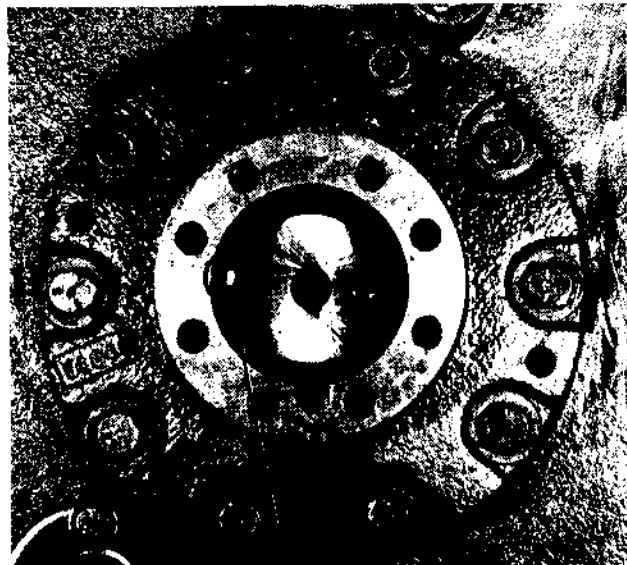

Figure 55
1. Place the oil pump assembly in the bearing head against the crankshaft. The outside ring of the pump has a notch which fits a pin on the end of the crankshaft (Figure 55).